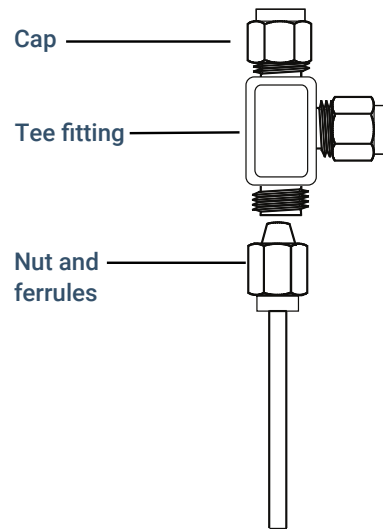

Figure 21. Swagelok tee
1. Cut the tubing where you want to install the Tee. Connect the tubing and Tee with a Swagelok fitting. See **Figure 21**.